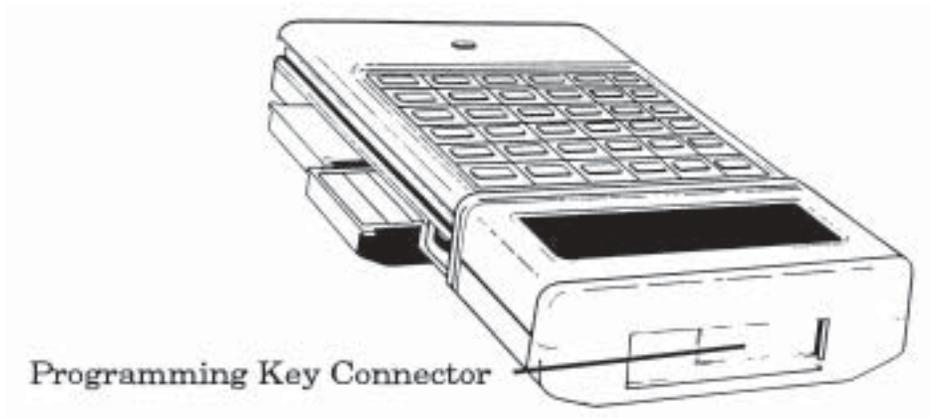

Fig. 4.0-2 Programming Key Connector
C. Slide the cover of the connector at the top of the PSION to the right such that the connector within the unit can be seen (Fig. 4.0-2)